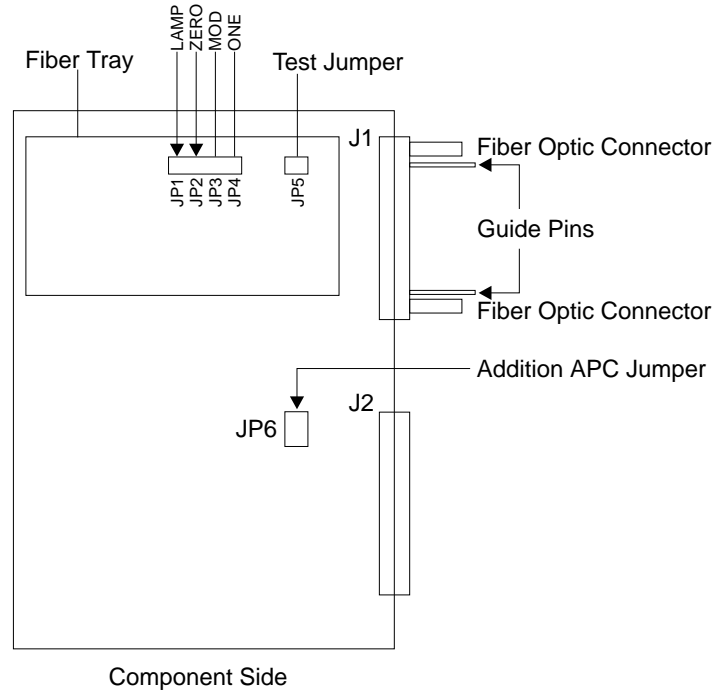

Figure 14. LRC Jumper Locations
- 3 Move the jumper blocks from the card you have removed to the card you are installing. Position the jumpers on the new card in the same positions as on the card you are replacing. See Figure 14 for the location of the jumpers.